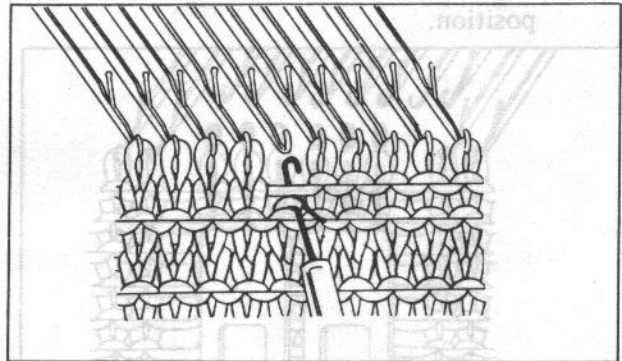

Fig. 3
5. By dropping the latch needle tool, loop of the first row will be unraveled. (Fig. 3)